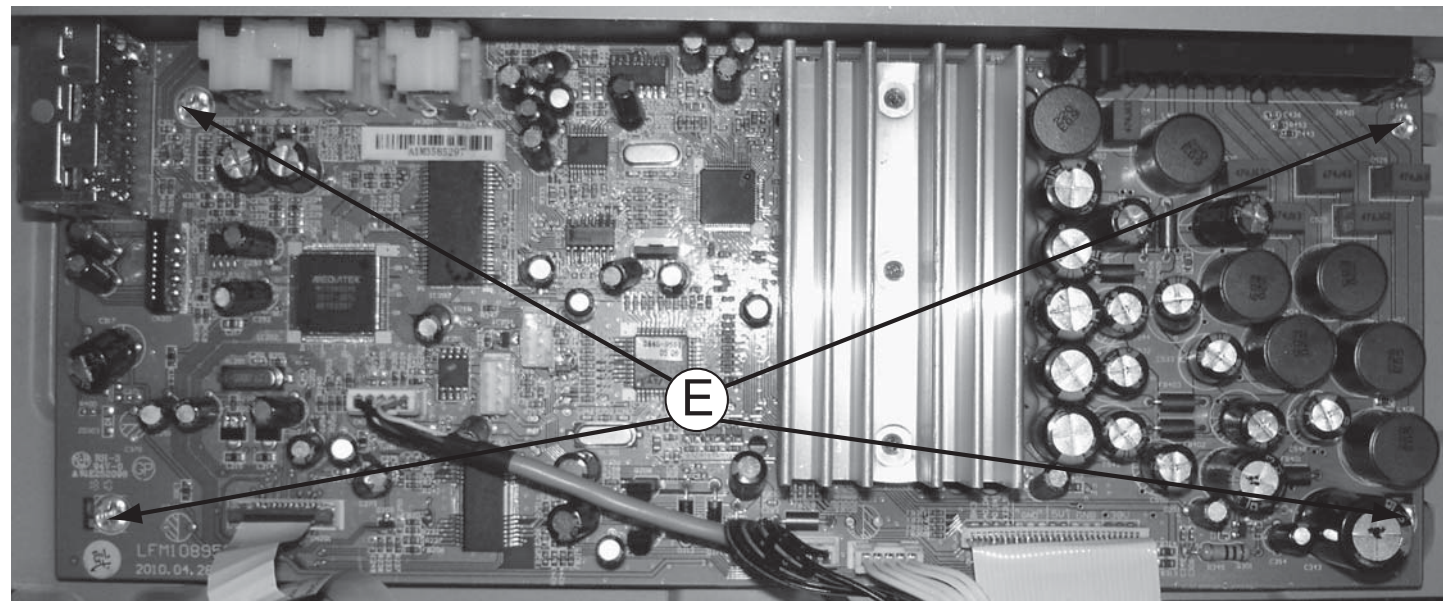

Figure 8
- 1) Loosen 4 screws "E" on the top of MAIN Board as shown in figure 8.